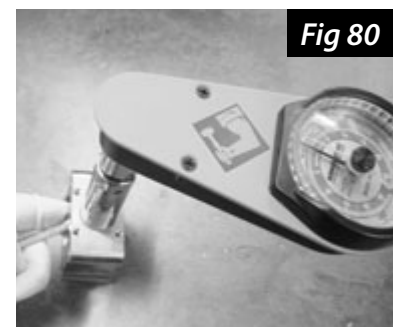

Fig 80
5. Place a new stem lock nut onto the valve stem. Torque nut to 35 in-lbs with a torque wrench and 7/8" socket. Hold the valve stem in place by grasping the base of the stem on the inside of the valve body with a 5/16" or 8mm open-end wrench or an adjustable wrench (Fig 80). **WARNING: Over tightening the stem nut will cause the o-ring to wear prematurely and greatly reduce cycle life. Stem leaks may also result.**